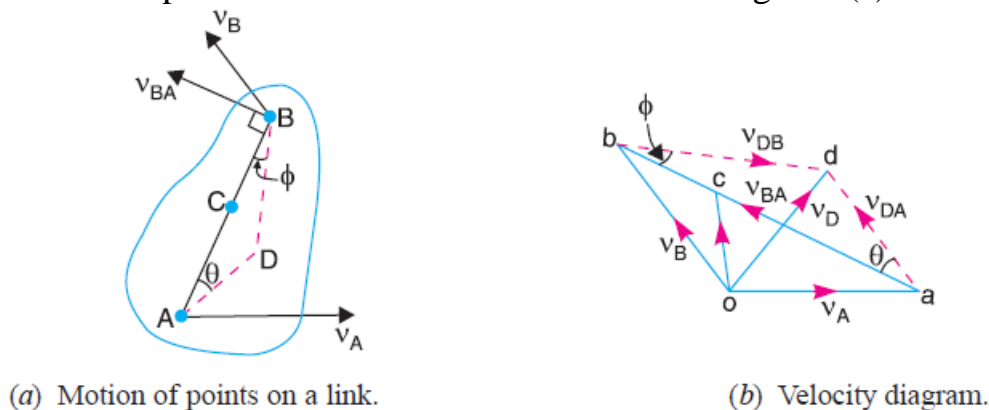

Fig 2.4
Consider two points A and B on a link as shown in Fig. 2.4 (a).
Let the absolute velocity of the point A i.e. v_A is known in magnitude and direction and the absolute velocity of the point B i.e. v_B is known in direction only. Then the velocity of B may be determined by drawing the velocity diagram as shown in Fig. 2.4 (b). The velocity diagram is drawn as follows:
3. Through a , draw a line perpendicular to AB of Fig. 2.4 (a). This line will represent the velocity of B with respect to A , i.e. v_{BA} .
- The absolute velocity of any point C on AB may be determined by dividing vector ab at c in the same ratio as C divides AB in Fig. 2.4 (a). In other words: